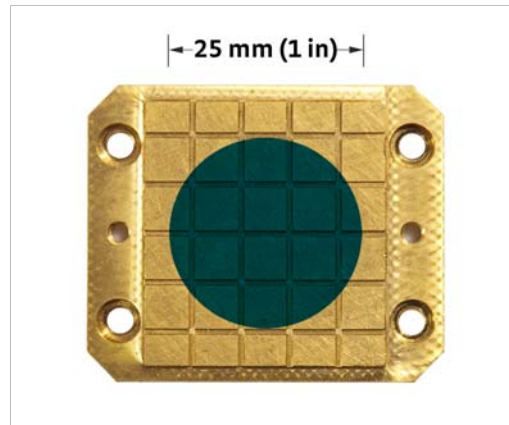

FIGURE 4-1 Probe area indicated with a blue circle
5. Using the x and y-micrometers to adjust position, move the probe (it should travel smoothly) until the probe tip reaches all sides of the specified 25 mm (1 in) diameter probe area (see FIGURE 4-1 for probe area).
Each probe assembly includes a micro-manipulated translation stage with three axes of motion that are described in this section. All six available probes can be positioned in a 25 mm (1 in) diameter probe area in the center of the sample holder (FIGURE 4-1). The CPX-VF can accommodate 32 mm (1.25 in) and 51 mm (2 in) sample holders, but the probe area is the same for both sizes. Individual probes can land outside the probe area in line with the probe arm. Due to translation limitations, individual probes cannot be landed on either side of the defined probe area. The sample should be positioned and aligned on the sample holder to take best advantage of the probe area (see section 4.3.3.1 for alignment).
Whole, 25 mm (1 in), wafers or larger must be centered on the sample holder in order to fit onto the sample stage to take advantage of the probe area in the CPX-VF (see FIGURE 4-1 for an image of the probe area). Smaller samples should also be centered to allow easy access by all probes.